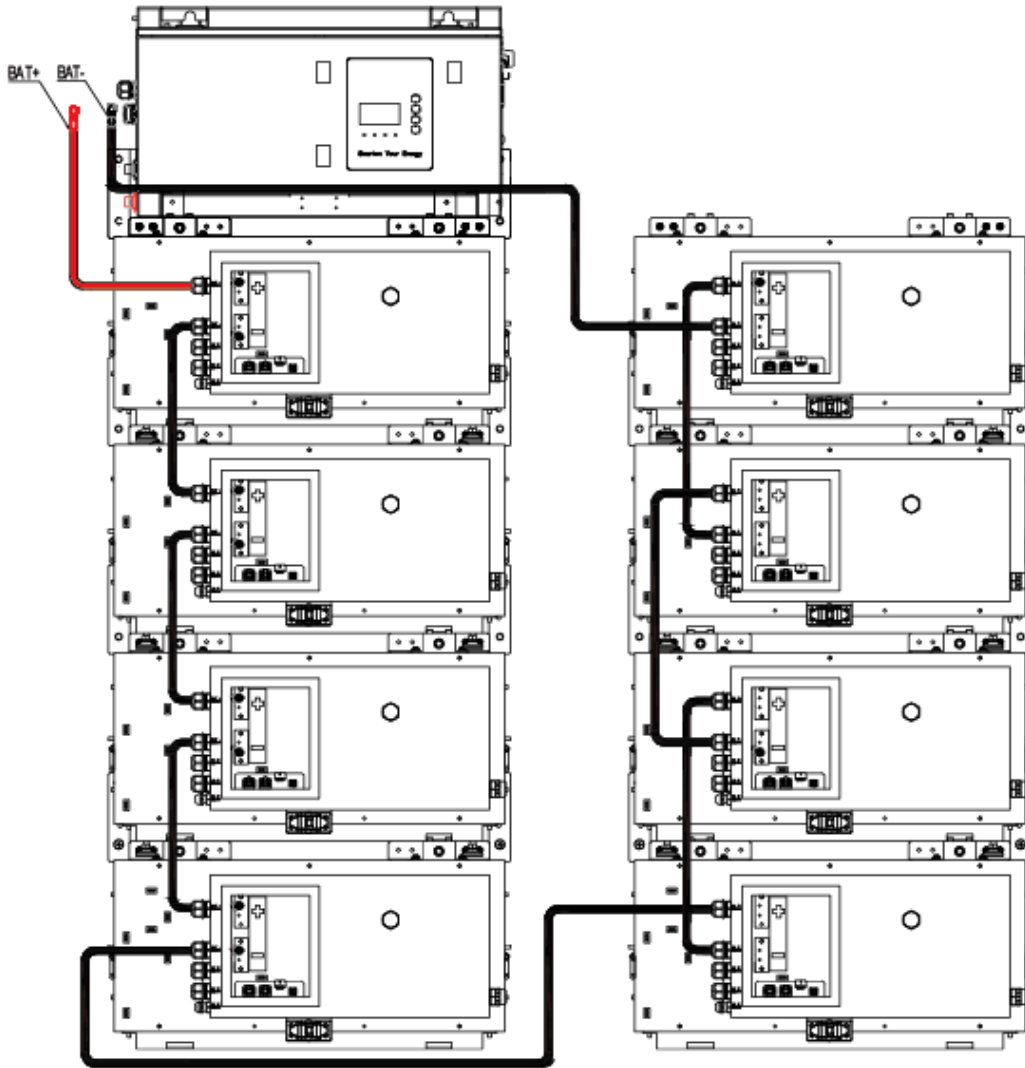

Figure 21 Connection of Power Cables on Battery Side
Step 6: Please connect the power cables as referred in Figure 21 .